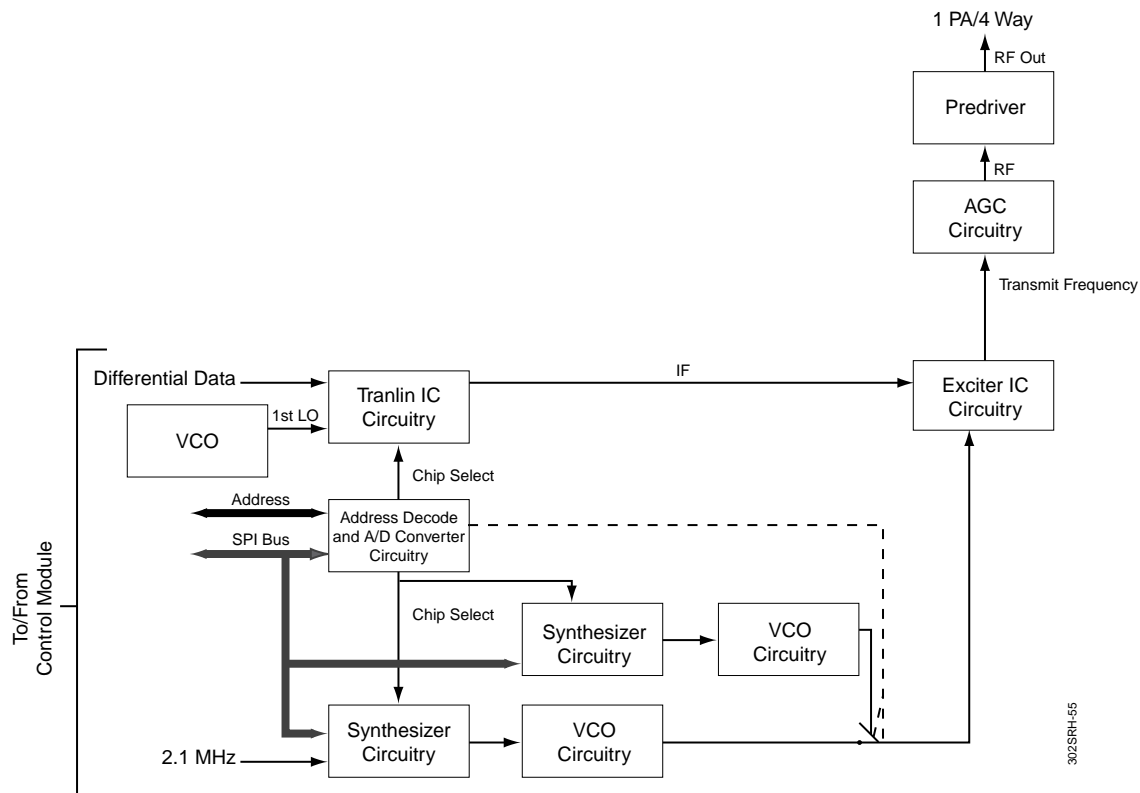

Figure 2-7: Exciter Block Diagram
The RF Exciter module converts high-speed, digital baseband data generated by the OCB to selected RF frequencies. A custom linearization integrated circuit (IC) with a built-in inphase and quadrature (I/Q) digital modulator accurately shapes waves for broadcasting ReFLEX or InFLEXion protocol messages. The output of the Exciter is the station carrier frequency with the appropriate modulation needed for FLEX, ReFLEX, and InFLEXion protocol message delivery to the communicators (see Figure 2-7).